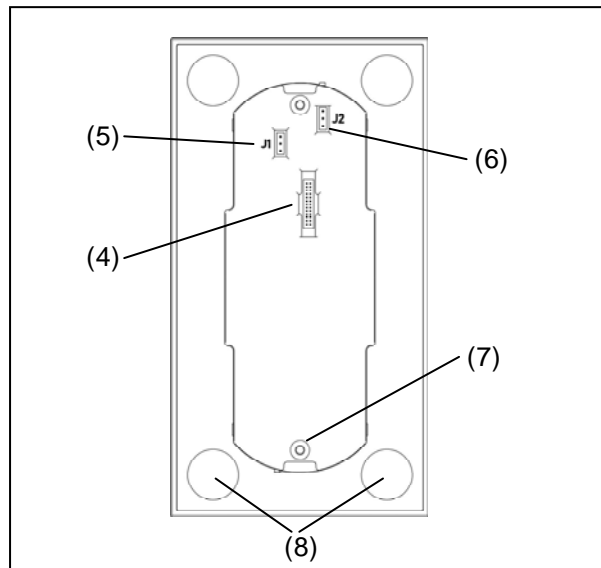

Figure 2: Rear view
- Clean the attachment locations for the adhesive points on the back of the glass sensor (Figure 2, 8).
- Connect the glass sensor to the adapter being used by means of the supplied ribbon cable. Do this by inserting the plugs into the slots provided for that purpose in the glass sensor (Figure 2, 4) and the adapter.